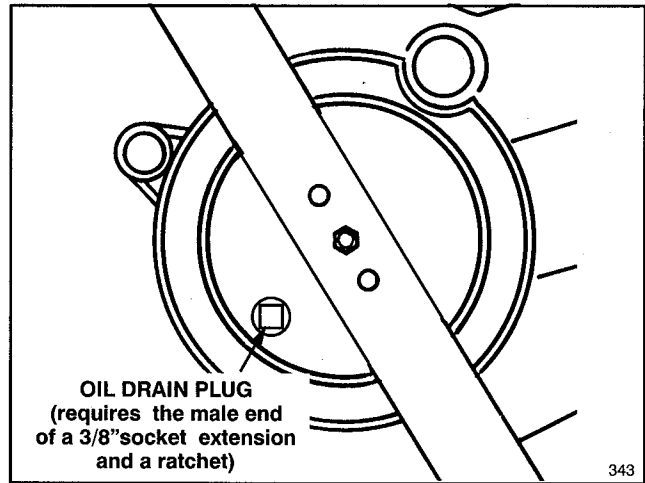

Figure 13
3. The oil drain plug is on the underside of the mower deck (Fig. 13). The recommended procedure for tipping the mower to access the plug is to tip the mower backward onto its handle and have someone firmly hold the mower in this position while you remove the plug. **DO NOT TIP MOWER ON SIDES OR FORWARD WHEN DRAINING OIL.**
5. Remove drain plug from underside of mower using the male end of a 3/8" square socket extension with a ratchet for turning (Fig. 13).